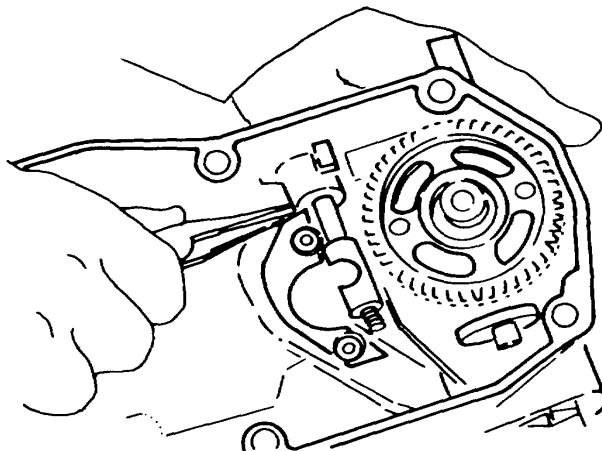

Figure A-46. Speed Control Lever
- (1) After turning the speed control lever with its end points upward, push the control shaft into the housing until the control shaft's retaining ring groove is visible. Push on the retaining ring with your thumb on screw-driver handle. Hook the large end of the outside return spring across the boss of the pin. (Figure A-46.)